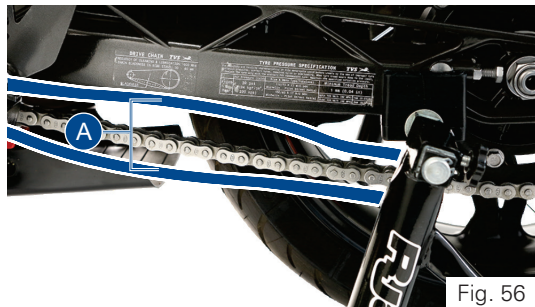

Fig. 56
- Using the fingers, check the slackness of the chain at the lower portion, midway (A) between the sprockets (ref. Fig. 56).
- The slackness (A) should be between 30 to 40 mm at the various points of the chain.